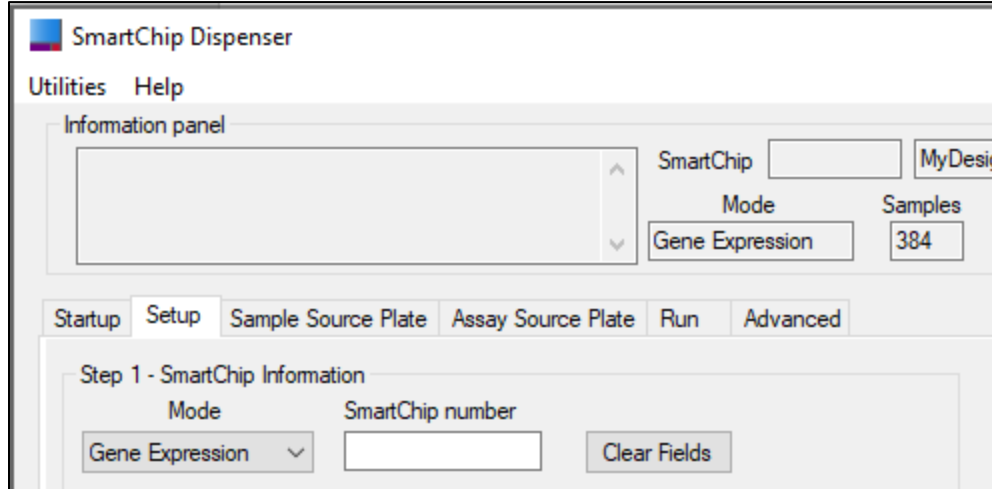

Figure 25. *Setup* tab in the SmartChip Dispenser Software.
1. Click the *Setup* tab (Figure 25).
NOTE: If a 250 nl chip type was specified, the 'Predispensed' option will be grayed out as in Figure 25, below).